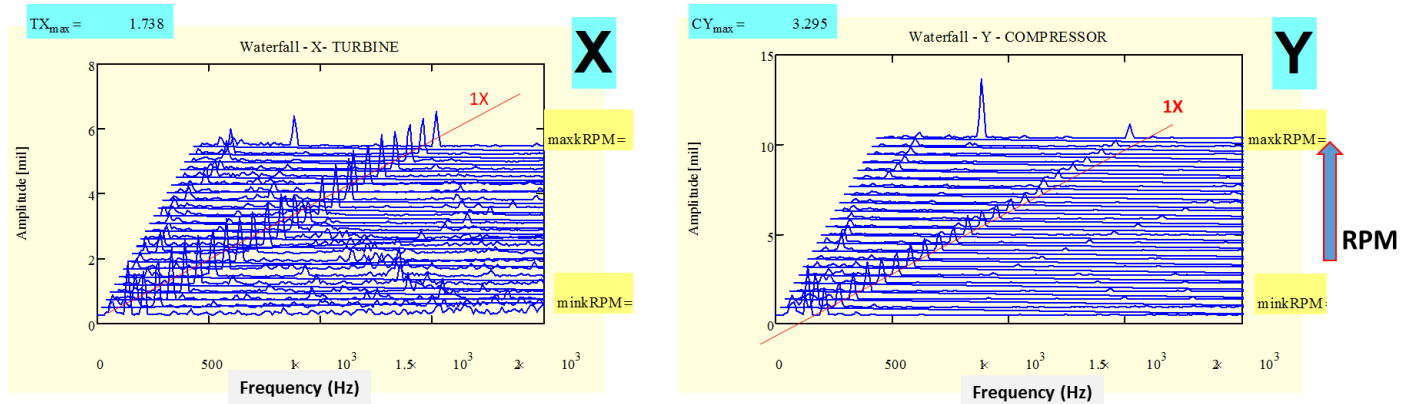

Fig. 2. Waterfalls of shaft motion amplitude at C and T ends.
- E) Produce waterfalls of shaft motion (DFT amplitude vs frequency vs shaft speed). See Figure 2, for example.